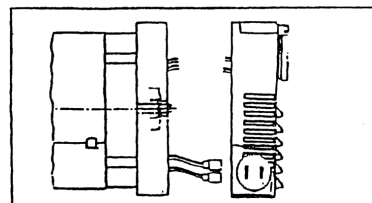

Fig. 3
5. Connect the capacitor and the connectors (sockets version) as the wiring diagram (Fig. 3)